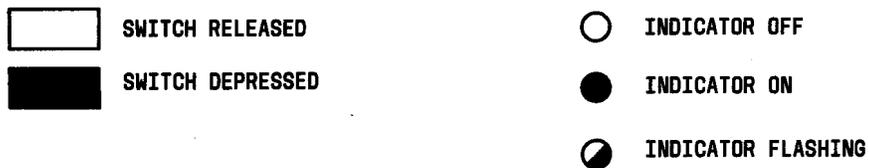

Fig. 8—Analog Loopback Self Test, Data Set Switch Positions, and Lamp Status
5.06 Perform the test as follows (refer to Fig. 8 for data set switch positions and lamp status):